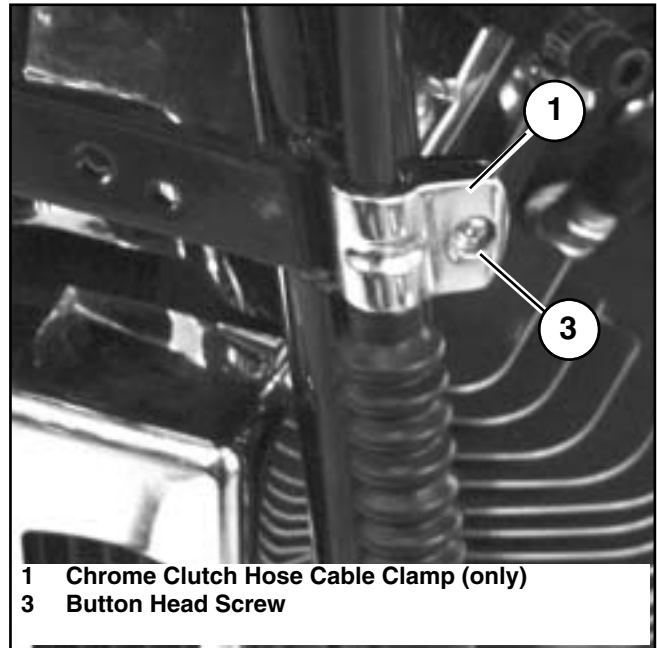

Figure 1. Installation of Clutch Cable Clip
3. See Figure 1. Apply one drop of Loctite®242 (blue) to the new capscrew (3) threads. Install the chrome clutch hose clip (1) and capscrew (3), securing the clutch cable to the frame downtube horizontal mounting bracket.